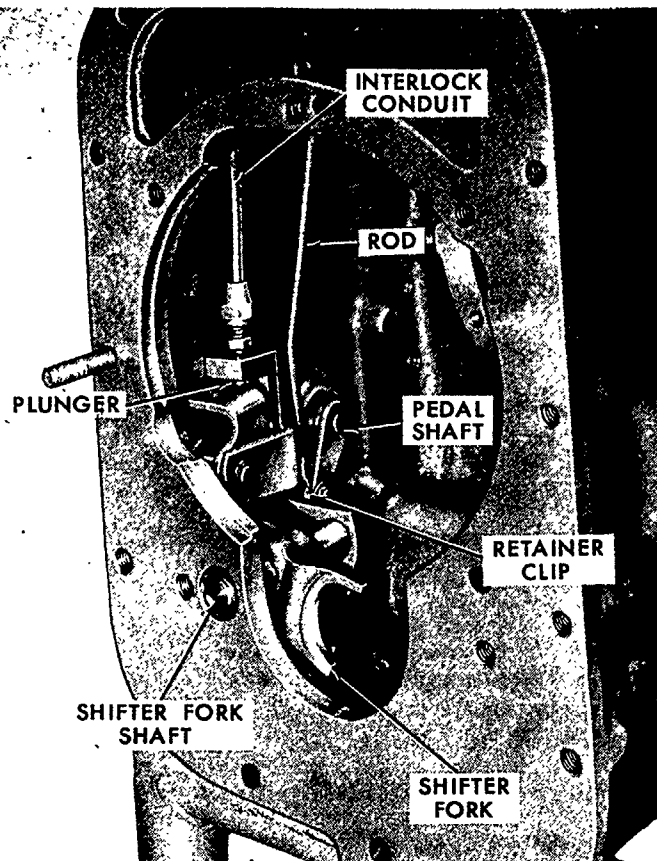

Figure 58
5. Install the P.T.O. interlock cable and conduit in the case, inserting the top through the clamp in the P.T.O. feathering valve rocker assembly. The plunger on the bottom of the cable is installed in the shift-shaft lever. Secure the conduit fitting to the lever. See Figure 58.